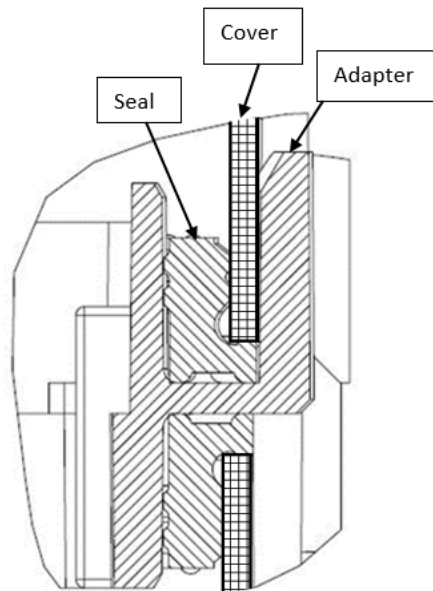

Figure 36
**ATTENTION:** The Cable Exit Cover 1-2303200-1 and 1-2303200-2 needs to be aligned properly over the inlet and pushed vertically into position to make sure the seal slips correctly into the seating all around (figure 36)